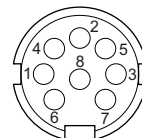

Fig. 9.10: Pins
• For the pin assignment of the temperature probe and the extension cable see Tab. 9.2 and Fig. 9.10.